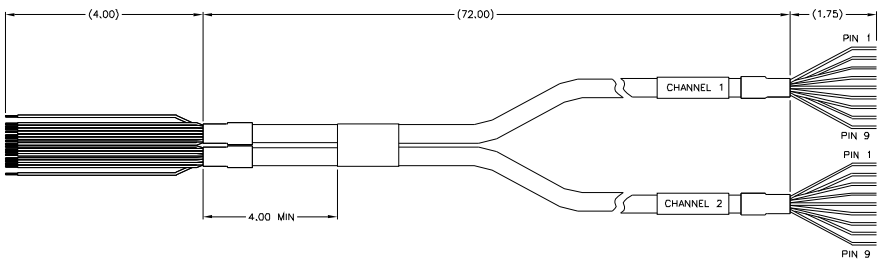

FIG. 3-14 RTA CABLE - HI 1769-2WS
- Six (6) foot cable that connects to the HI 1769-2WS. (See Figs. 3-14 & 3-15)